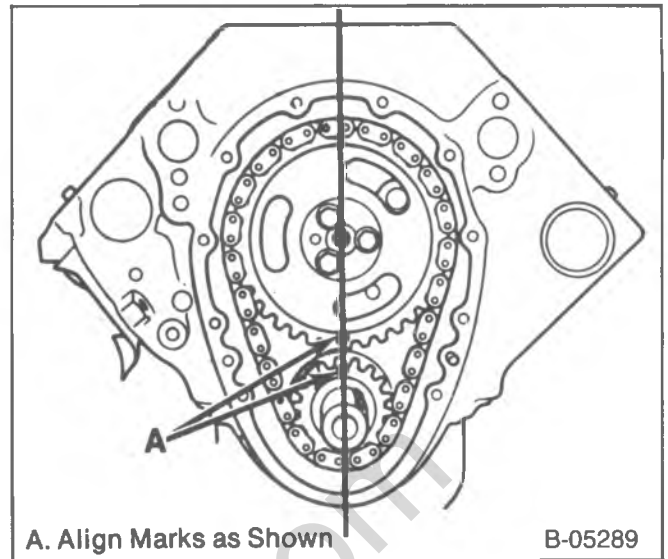

Figure 25—Timing Marks
↔ Remove or Disconnect (Figures 25, 26, and 27)
- Align the timing marks (figure 25).
Install or Connect (Figures 25 through 27 and 35 through 38)
- Line up the timing marks on the camshaft sprocket and crankshaft sprocket (figure 25).